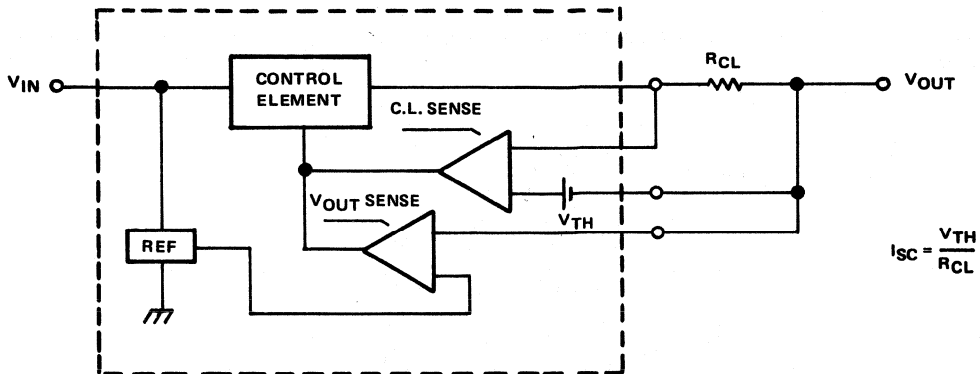

Figure 4.5. Constant Current Limit Configuration
**Constant-Current Limiting** – Constant-current limiting is the most popular current-limiting technique in low-power, low-current regulator circuits. The basic configuration is shown in Figure 4.5. Implementation of this method requires access to the control element and remote voltage sense capabilities. Sensing the output voltage beyond the current limit, the circuit allows the regulator to compensate for voltage changes across  $R_{CL}$  for varying load conditions.